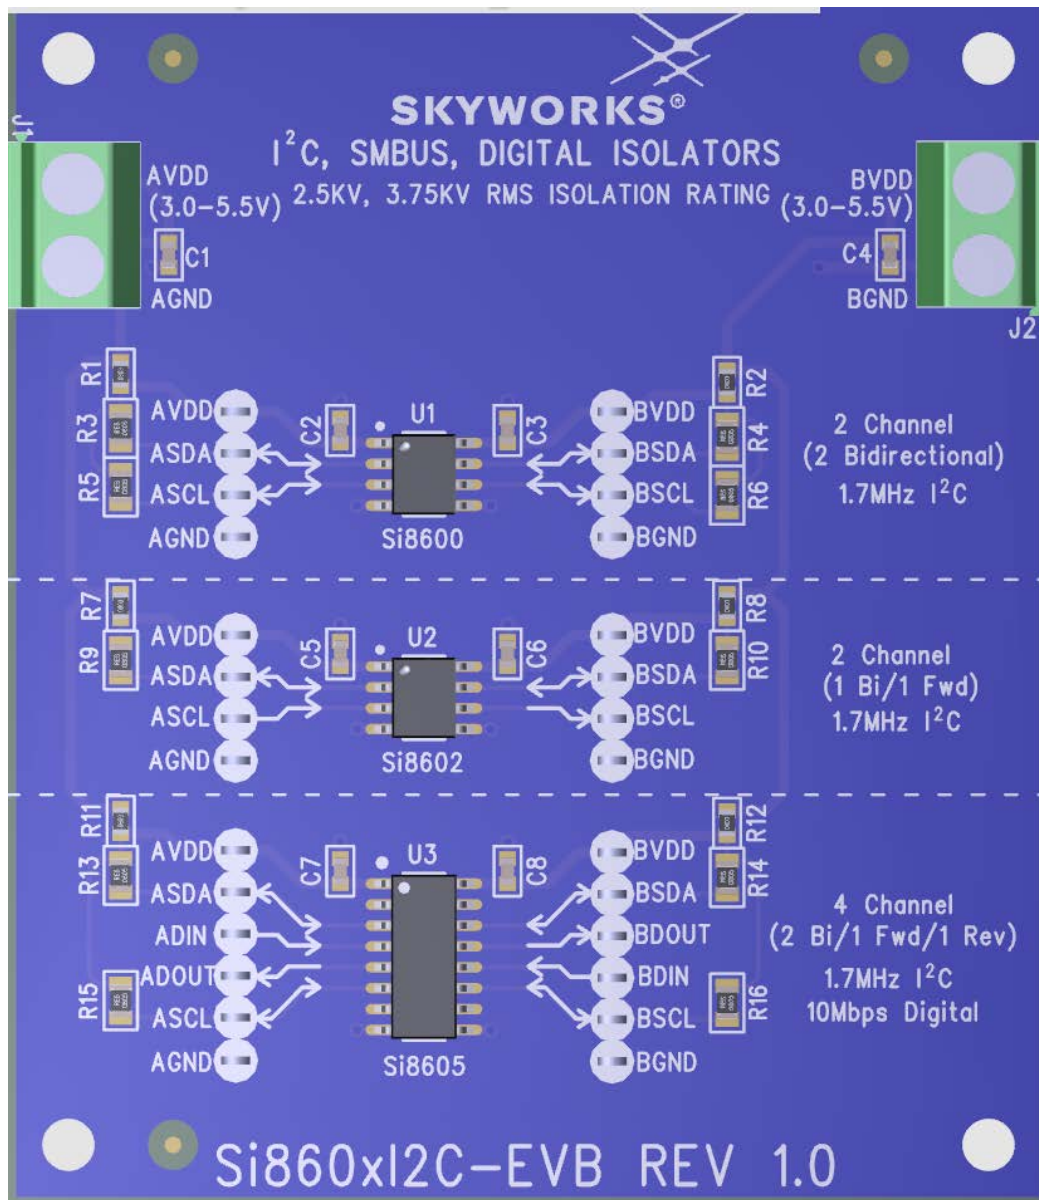

Figure 1. Si860xI2C Evaluation Board Overview
- Si860xI2C-EVB evaluation board shown in Figure 1.